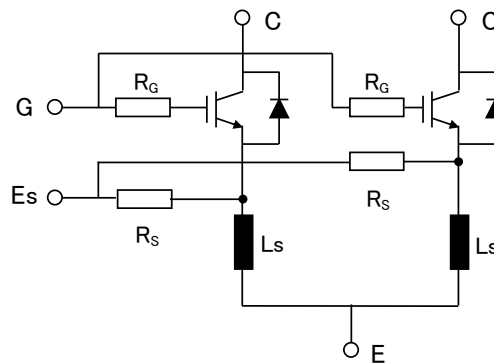

Figure 7-14. Measures to limit inductive current in emitter wiring
- Insert a low value resistance (e.g.  $0.1\ \Omega$ ) or ferrite core in the emitter wiring of the gate drivers in case an inductive current flows in the loop of the main emitter wiring and the gate driver wiring. This loop current may cause a difference in the switching speeds between paralleled devices by influencing the instantaneous gate voltage. (Figure 7-14)